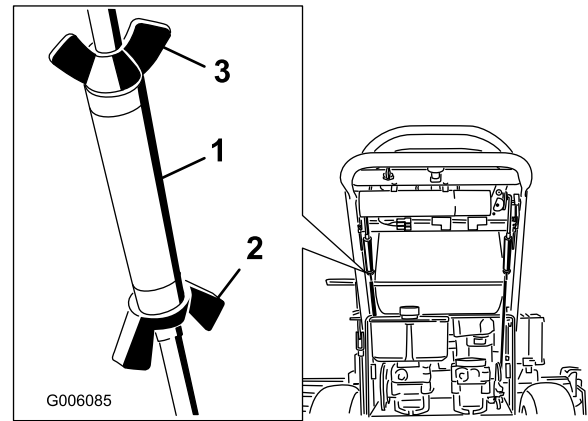

Figure 41
3. Loosen the wing nuts on the right control rod and rotate the turnbuckle in or out to ensure the right side control lever is centered in the neutral lock position. Secure the turnbuckle in position with the wing nuts (Figure 41).
4. Loosen the wing nuts on the left control rod and rotate the turnbuckle in or out to change the tracking. Secure the turnbuckle in position with the wing nuts (Figure 41).